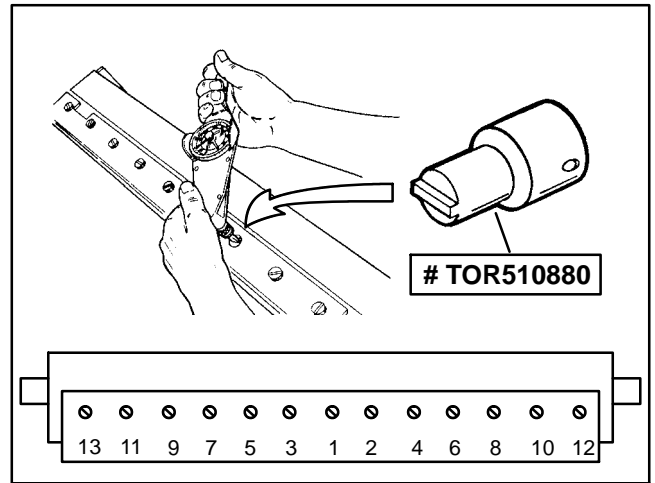

Figure 19
4. Use new screws to secure bedknife to bedbar. Install all screws but do not tighten fully. Then, using a torque wrench and bedknife screw tool, torque screws from **200 to 250 in-lb (23 to 28 N-m)**. Use a torquing pattern working from the center toward each end of the bedknife (Fig. 19).